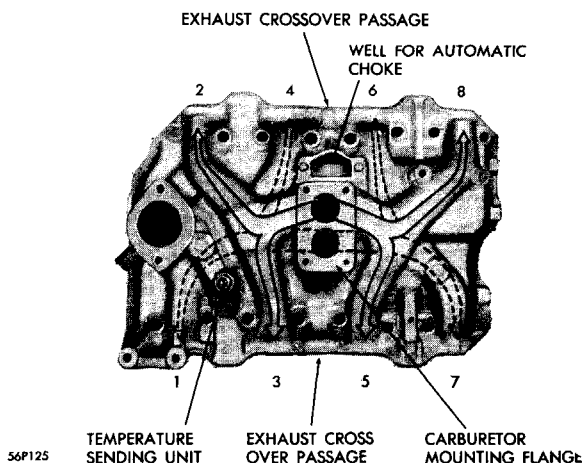

Fig. 6—Intake Manifold (318 C.I. Engine)
7. INTAKE MANIFOLDS (Figs. 6 and 7)